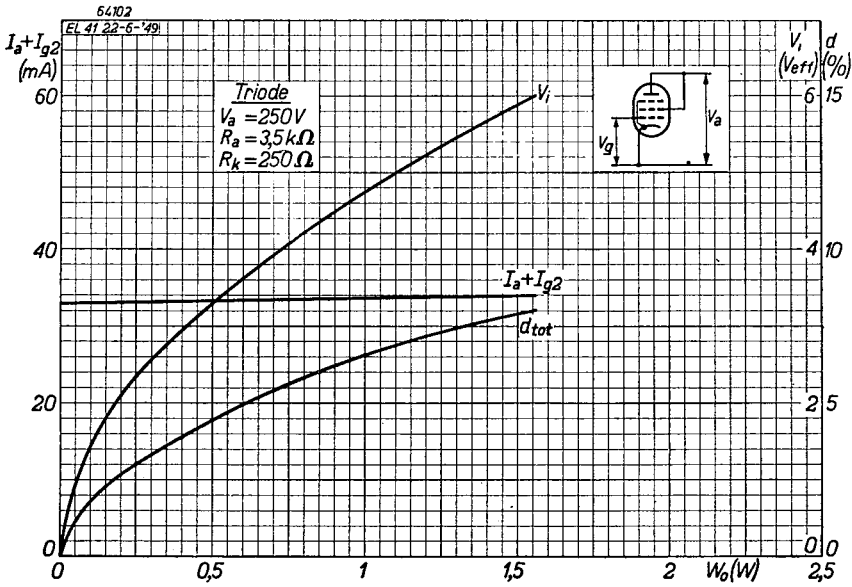

Fig. 9
**Operating characteristics of one valve as Class A output amplifier in triode connection** (screen grid connected to anode) (see Fig. 9)